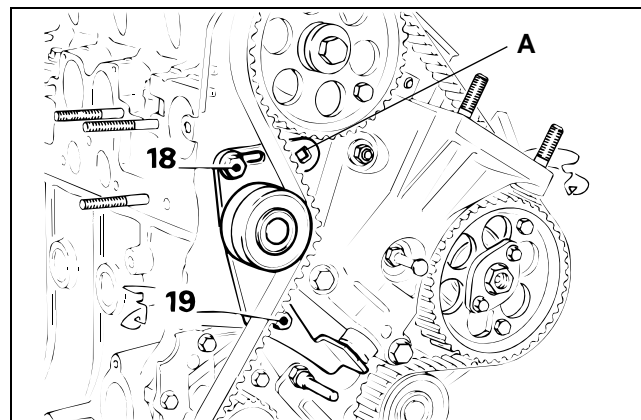

Figure 48
7. Loosen the bolt (Fig. 48, Item 18) and nut (Item 19) to release the tensioner roller.